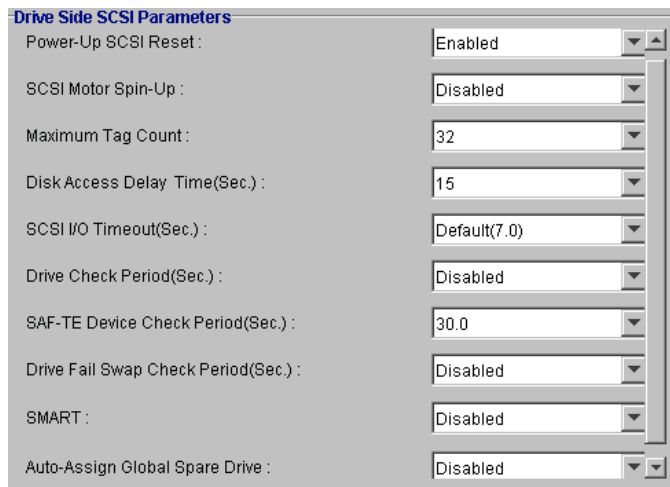

Figure 6-7: Drive -side SCSI Parameters
- ◆ **Drive Side Parameters** (choose from each range, see *Figure 6-7*):